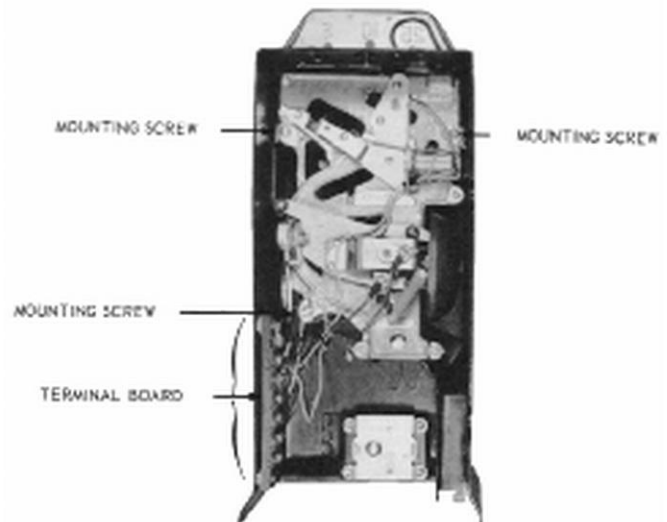

Figure 1. Coin Gage Chute.
- (1) Remove the three pan head machine screws holding the coin chute to the upper housing (see Figure 1).
- (2) Disconnect the wires between the coin chute and the upper housing terminal board (see Figure 1).